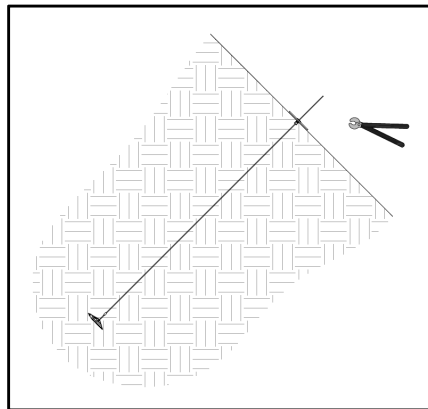
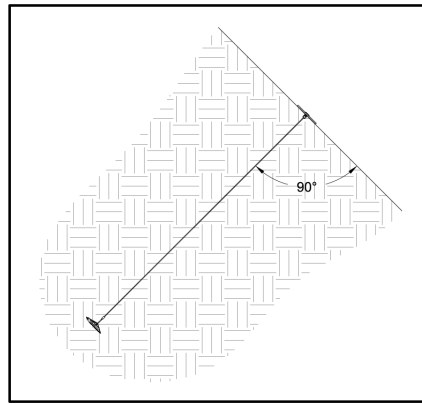

Figure 28: Trim Extra Cable Flush to Plate
Figure 29: Complete Anchor Installation
9. Once anchors have been load-locked, cut off the excess anchor tendon flush to the plate at the slope surface using wire cutters (Figure 28 and Figure 29).